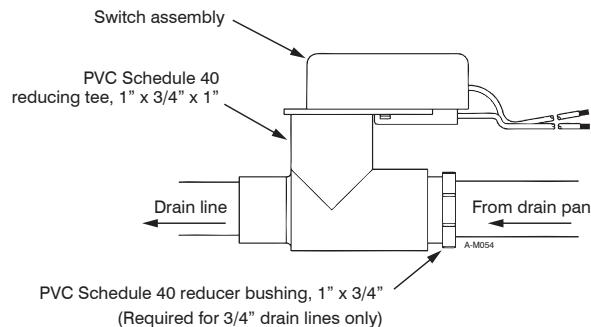

Figure 4
2. For inline installation (see Figure 2 for item number reference and Figure 4 for installation), leave out the 3/4" plug (Item 8) and assemble the PVC Tee to the drain line.